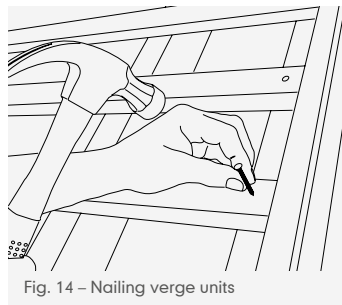

Fig. 14 – Nailing verge units
- 6 Secure the verge extrusion by driving the annular ring shank nails provided through each tiling batten (40mm from the end) into the extrusion (Fig. 14). Alternatively, drill out, then plug and screw to top of gable (if brickwork).